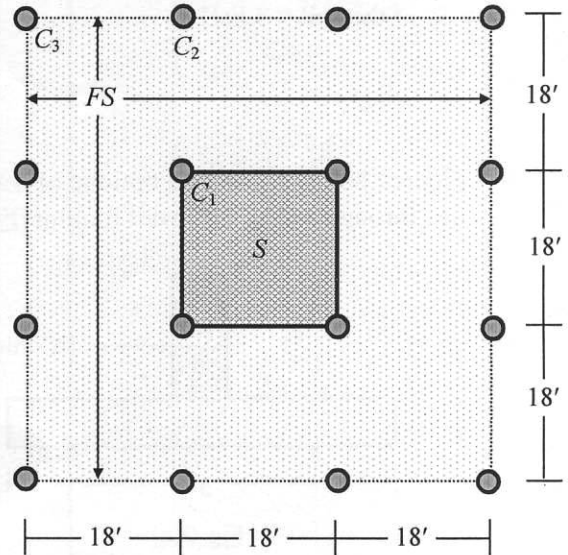

Fig. 1
- 1.(a) Fig.1 shows a two way edge supported slab, whose middle strip mid span and support moment (unfactored) are given below. Calculate the required reinforcements and show them in a neat sketch. Show corner reinforcements also. Draw plan and sections showing the reinforcements. Use WSD method. [10]
**Fig. 1 for Question 1**
1. The floor plan in Fig. 1 includes a RC flat slab  $FS$  supported on 18"-diameter columns, with 5" thick brick walls along all column lines. Floor loads also include working  $FF = 25$  psf,  $RW = 50$  psf.
2. Fig. 1 shows a floor plan consisting of the RC slab  $S$ , supported on 12" × 15" beams and 18"-diameter columns, with 5" thick brick walls along all column lines. Floor loads also include working  $FF = 25$  psf,  $RW = 50$  psf.
3. Fig. 1 shows the floor plan of a 6-storied RC structure, consisting of 5" thick slab  $S$  (supported on 12" × 15" beams), 6" thick flat-slab  $FS$  and 5" thick partition walls along all column lines.
4. For the floor plan shown in Fig. 1 and described in Question 3, use the USD to